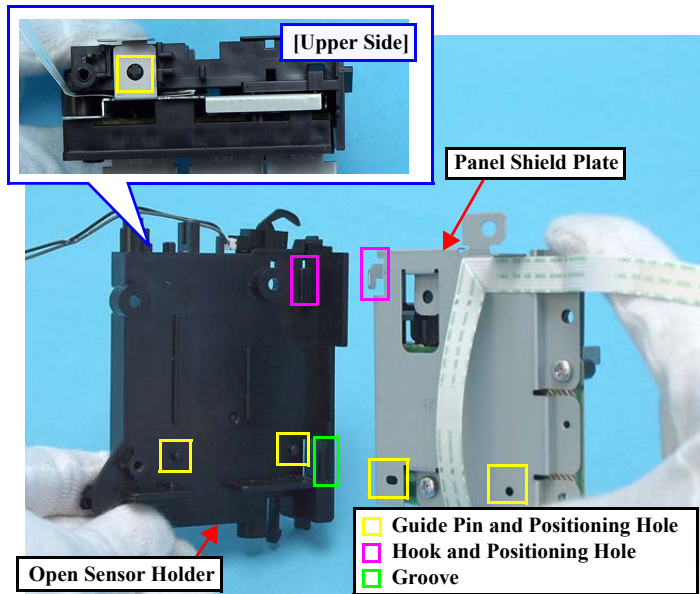

Figure 1-38. Installing the Panel Unit
- When installing the Panel Shield Plate to the Open Sensor Holder, match the hook and guide pins with the positioning holes shown in Fig.1-38 and insert the Panel Shield Plate into the groove of the Open Sensor Holder to secure the Panel Shield Plate.